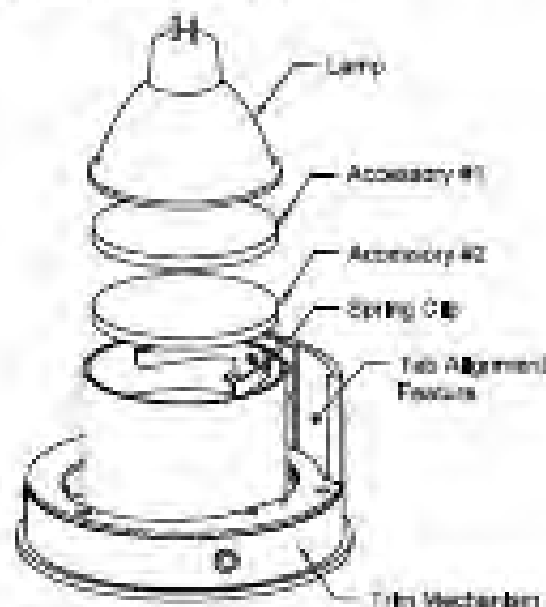
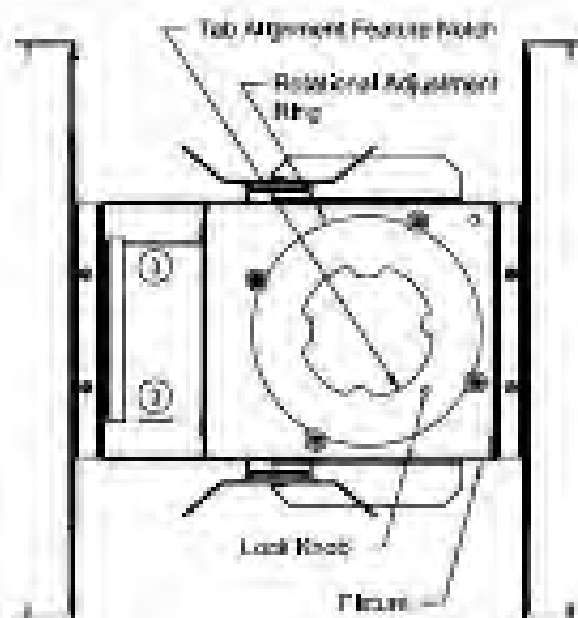

Figure 4
Figure 5
2. Slide out Lamp and/or accessories from under Spring Clip to remove. See Fig. 4.
4. To ensure original light beam placement, align Tab Alignment Feature on Trim Mechanism (See Fig. 4) with Tab Alignment Feature on Rotational Adjustment Ring inside Fixture (See Fig. 5).
3. Tighten Lock Knob inside Fixture to lock Rotational Adjustment Ring. See Fig. 5.